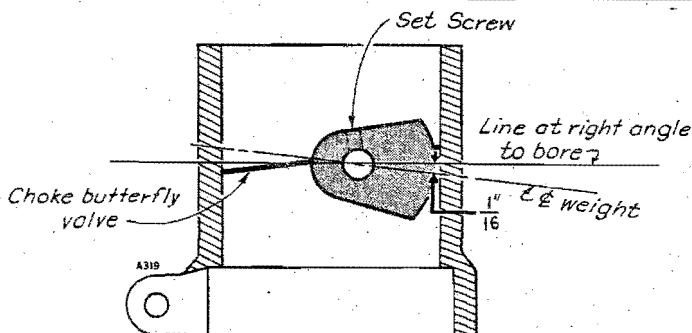

Fig. 11 Counterweighted Choke (Prior to Spec C)
Refer to Figure 11. for correct choke adjustment. After adjustment proper operation of the choke should be checked by determining that, (1) the butterfly valve freely closes when released, (2) the butterfly snaps open as soon as the engine starts.